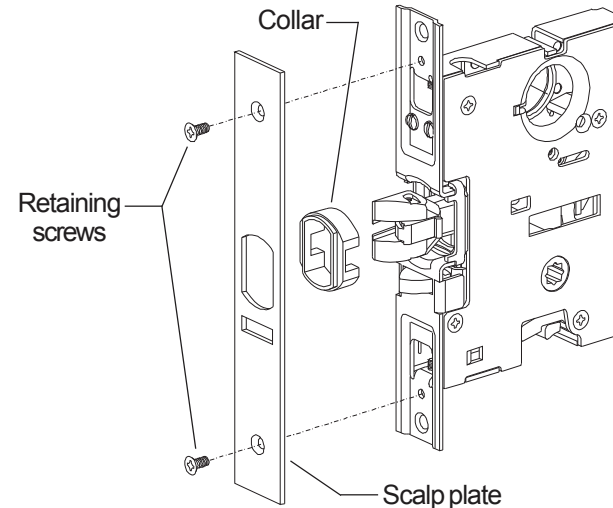

Figure 1
8. Install collar, scalp plate, and scalp plate retaining screws (Figure 1).